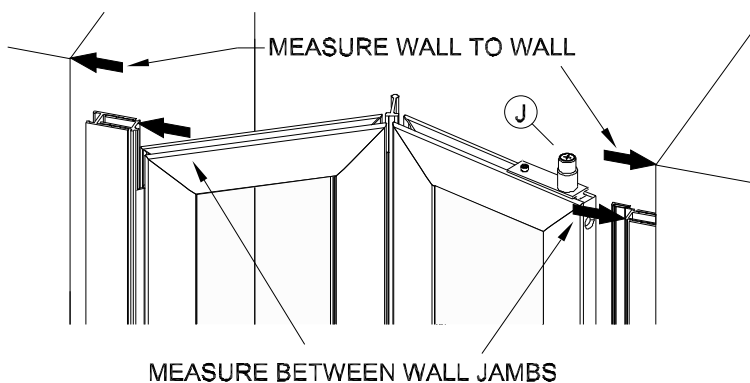

figure 10
15. Measure **wall to wall** opening width at top of Wall Jambs (see figure 10) and trim Header (S) to a 1/6" than measurement obtained.
Next measure the opening width **between the two Wall Jambs** (see figure 10) and trim remaining Track Guide (B) to 1/16" less than measurement obtained.